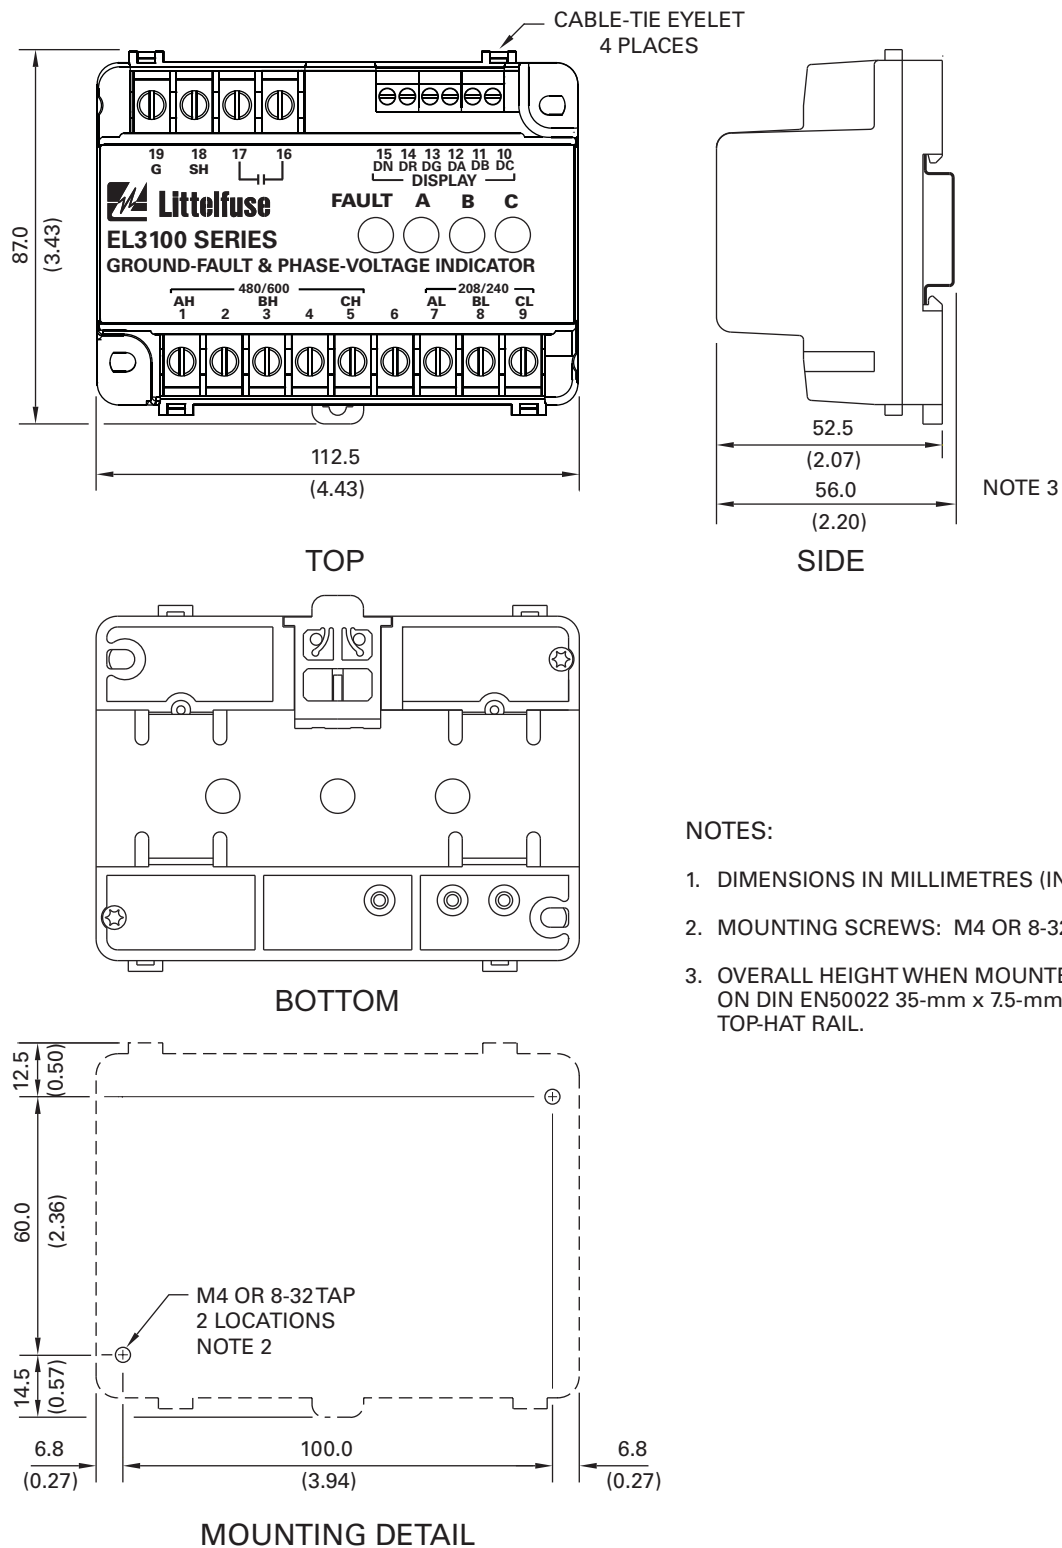
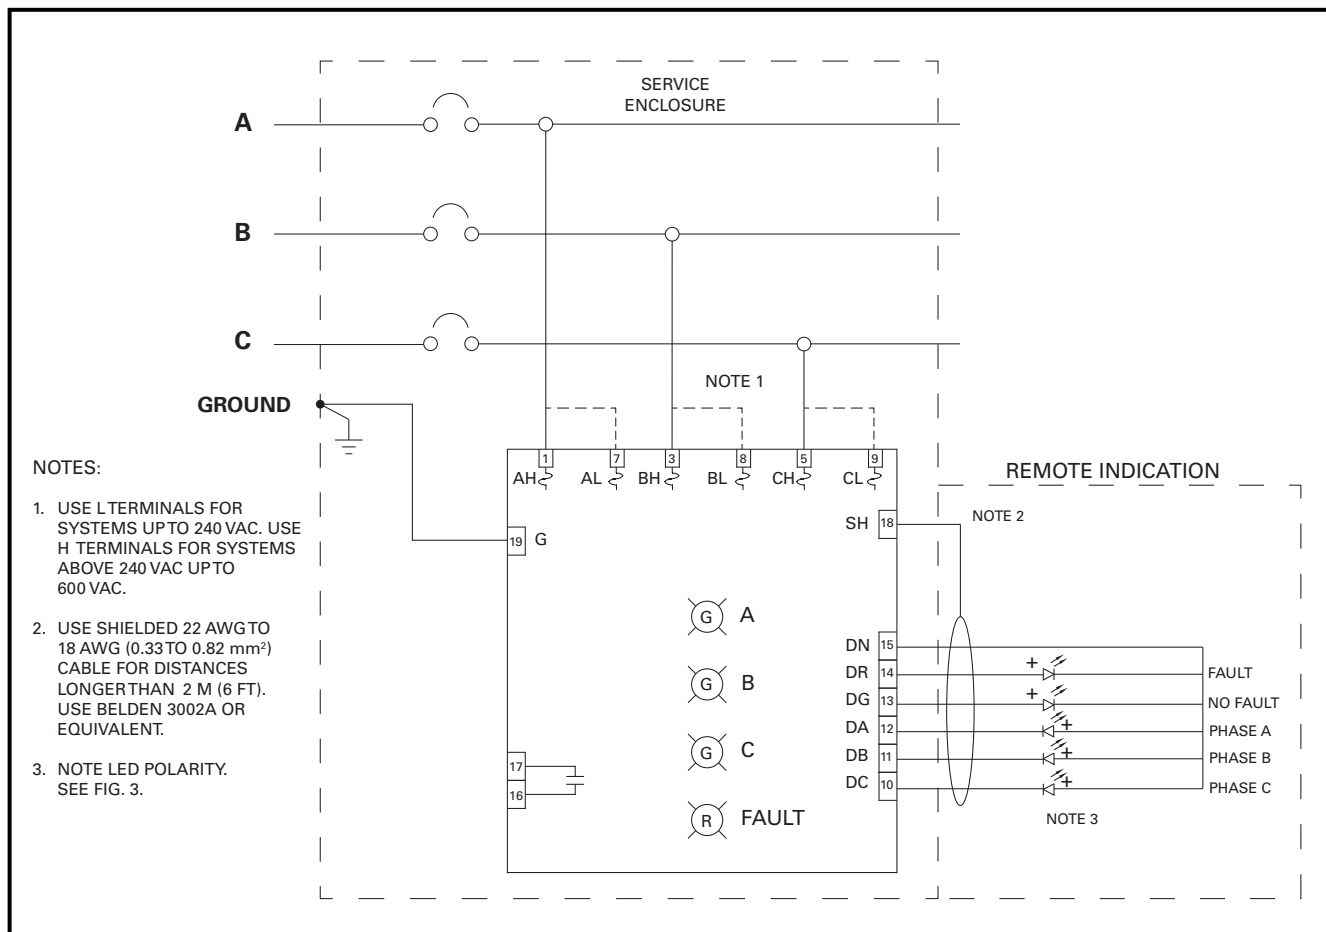

FIGURE 1. EL3100 Series Outline and Mounting Details.
FIGURE 2. Connection Diagram.
Terminals 10 through 15 are used for remote LED indication. High-intensity LED's with no internal resistors are required. See Section 7 for ordering information. Fig. 2 illustrates a remote LED application where all LED's are used.
Outline and mounting details of the EL3100 are shown in Fig. 1. For 208- or 240-Vac systems use terminals AL (7), BL (8), and CL (9). For systems above 240 Vac and up to 600 Vac, use terminals AH (1), BH (3), and CH (5). Connect bonding terminal (G) to ground. See Fig. 2. Terminals 2, 4, and 6 are not used.